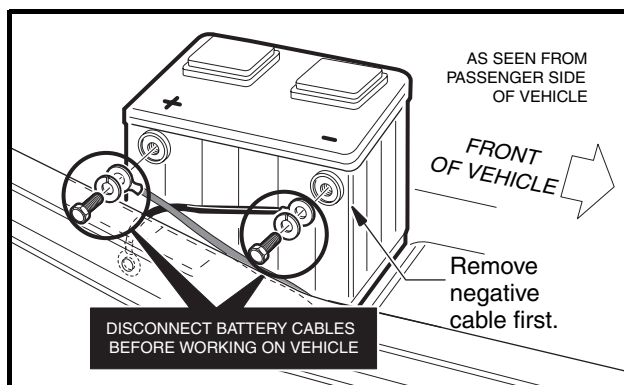

Figure 1 Battery Cable Removal
- **Disconnect battery cables, negative (–) cable first (Figure 1, Page 9).**